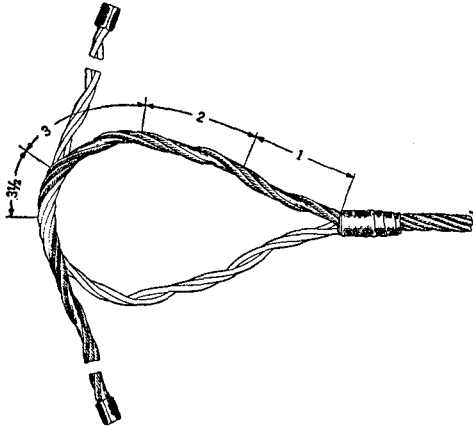

Fig. 3
**4.01** Holding the two parts of the rope, one in each hand, start the eye by making a simple overhand knot. The eye shall be started in such a way that the finished eye shall be at least 7 pitches in length. A 7-pitch eye is one which has 7 spirals of the strands entirely around the loop of the eye or 3-1/2 pitches to the center of the loop as shown in Fig. 3.